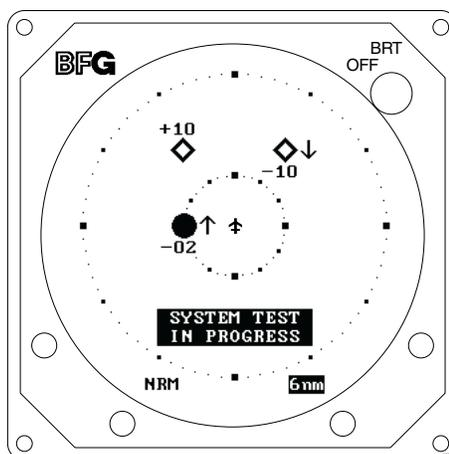

Figure 3-5. Self Test Screen
3. After approximately thirty seconds, observe the STANDBY screen and then press the TEST button (soft-key (2)).
4. The display should present a screen similar to that shown in figure 3-5.